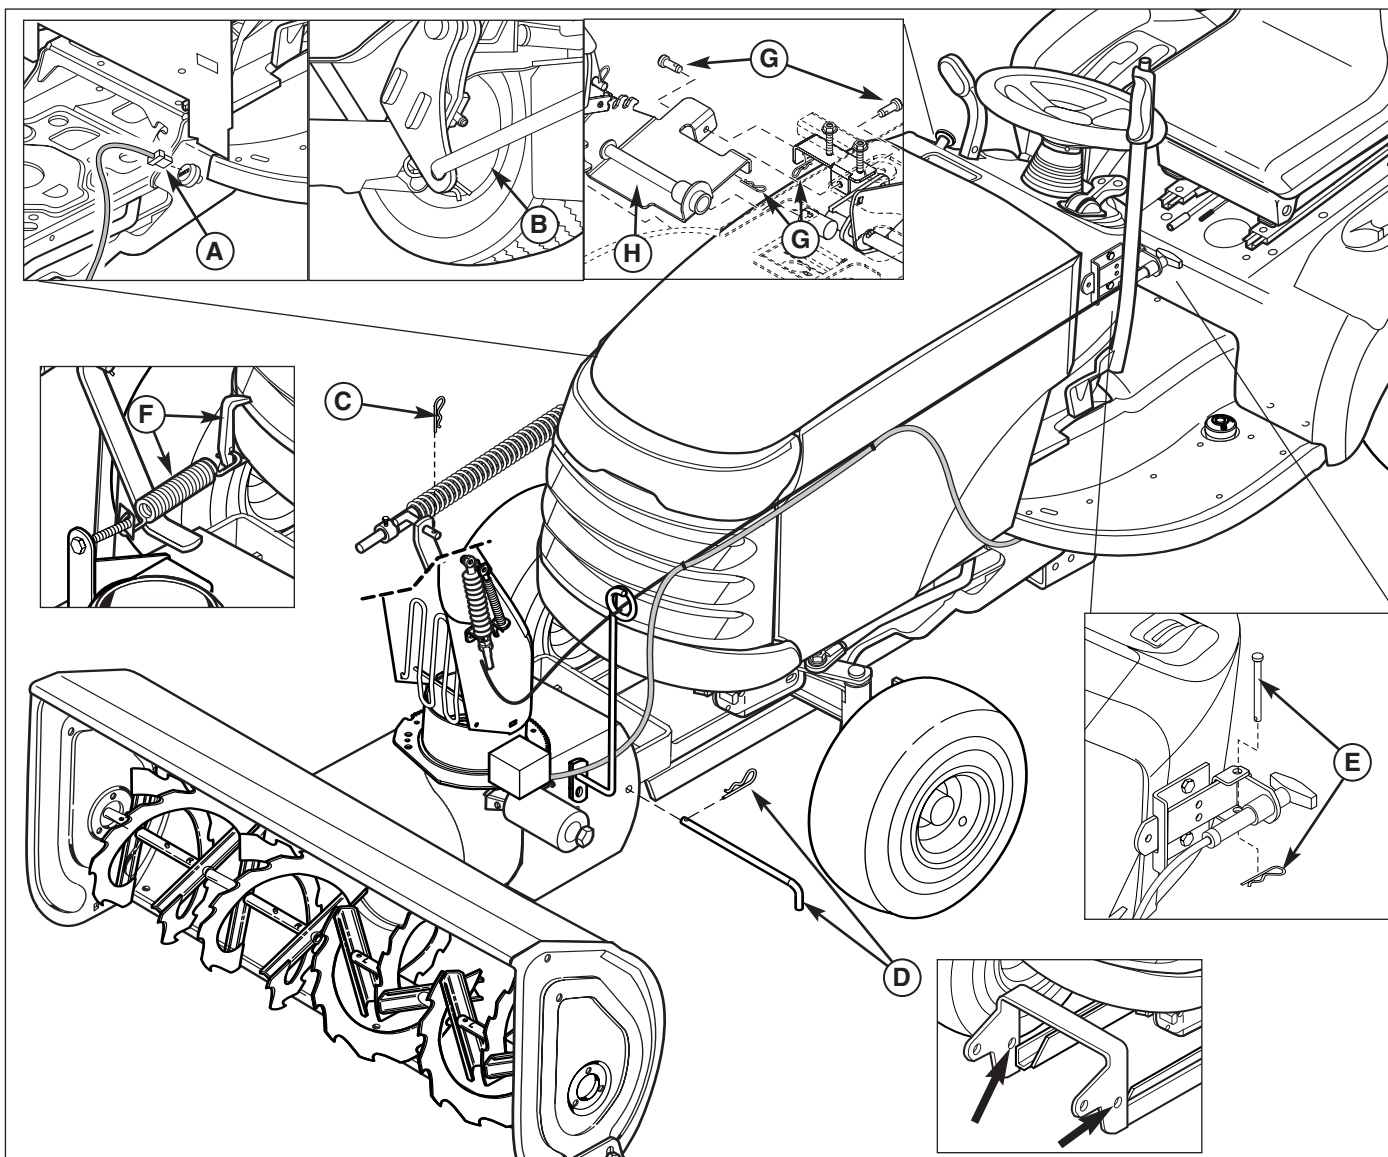
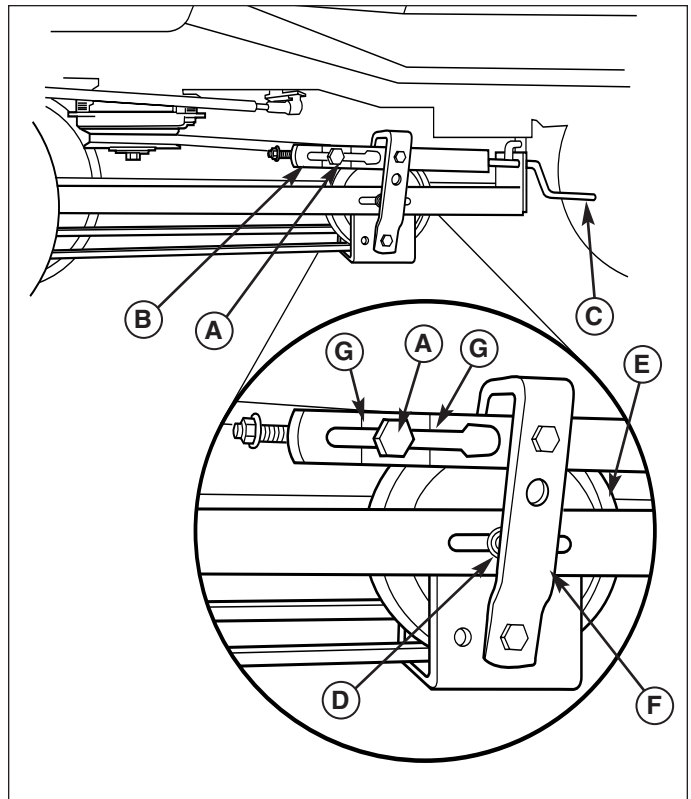

Figure 33. Removal
Figure 34. Adjusting Belt Tension
2. **Manual Lift Models:** Release and remove the lift assist spring and anchor (F, Figure 33).
4. Remove the clevis pin and clip (E) from the remote deflector control and disconnect the control from the mounting bracket.
5. Disconnect the rotator motor plug (A).
6. Disconnect the rear of the lift rod (B) from the lift arm extension. Remove the hair pin clip (C) from the front of the lift rod. Remove the lift rod. Remove the lift arm extension from the tractor (see Hitch Installation Instructions).
7. Use the trunnion handle (C, Figure 34) to relieve belt tension. Remove the belt from the snowthrower drive pulley (A, Figure 35).
8. Remove the hitch pin and clip (D, Figure 33) from the snowthrower and remove the snowthrower. Reinstall all pins and clips to prevent loss.
9. Remove the clevis pin and hair pin (G, Figure 33 RH manual lift models) frame mounted bracket. Reinstall all pins and clips to prevent loss.
2. Place the snowthrower in front of the tractor and secure to the hitch using the hitch pin and clip (D, Figure 33).
4. With the snowthrower drive belt installed, trunnion (A, Figure 34) should be between the marks (G) on spring tension bracket (B) for correct belt tension. Turn belt tension handle (C) to move trunnion forward or rearward until between marks.
5. Connect the rear of the lift rod (B, Figure 33) to the lift arm extension. Use a hair pin clip (C) to secure the front of the lift rod to the snowthrower.
6. Connect the rotator motor plug (A). Route the harness along the deflector control cable as shown.
7. Install the remote chute deflector control to the mounting plate and secure with a clevis pin and clip (E, Figure 33).
8. Fully raise and support the snowthrower with wood blocks. **Manual Lift Models:** Install the lift assist spring and anchor (F, Figure 33).
9. Install lift lever assembly (H, Figure 33 RH lift lever models) and secure with clevis pins and hair pins (G).